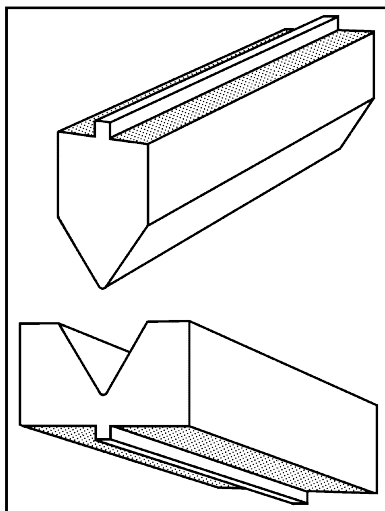

FIGURE 5-6 Seating Dies
- The hydraulic components and machine frame members are safeguarded against overload by a pressure transducer and a relief valve in the hydraulic circuit. However, care must be taken to provide enough area under the upper and lower dies to prevent them from sinking into the ram nose or bed top due to highly concentrated loads. This is the shaded area shown in Figure 5-6. The minimum area, sq. inches, for each die to prevent sinking may be calculated by this formula:*